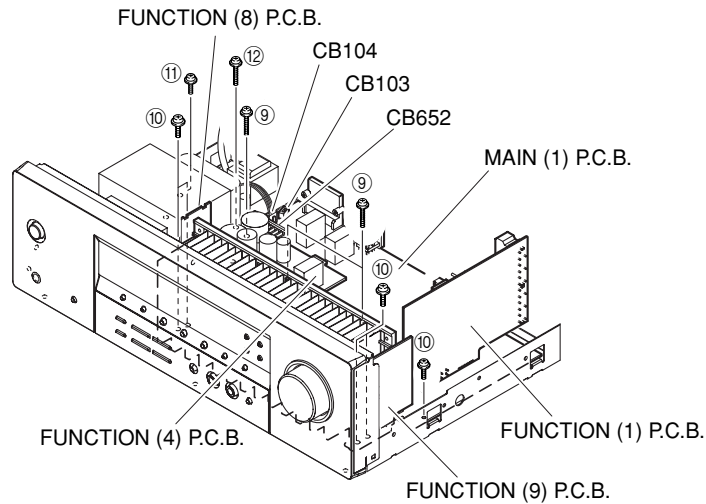

Fig. 5
- Remove CB103, CB104 and CB652. (Fig. 5)
- Remove 3 screws (9). (Fig. 5)
- Remove 5 screws (10). (Fig. 5)
- Remove MAIN (1), FUNCTION (1) FUNCTION (4), FUNCTION (8) and FUNCTION (9) P.C.B.s. (Fig. 5)
- Remove 4 screws (10). (Fig. 5)
- Remove 1 screws (11). (Fig. 5)
- Remove 1 screws (12). (Fig. 5)